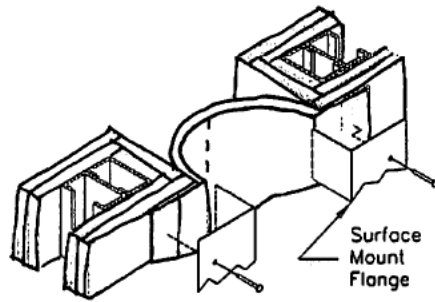

Fig. D1
2. Cut the galvanized flanges to length and drill appropriate size holes with maximum spacing of 18". Install the flanges with appropriate fasteners (by others) as shown. (Fig. D1 & E1)